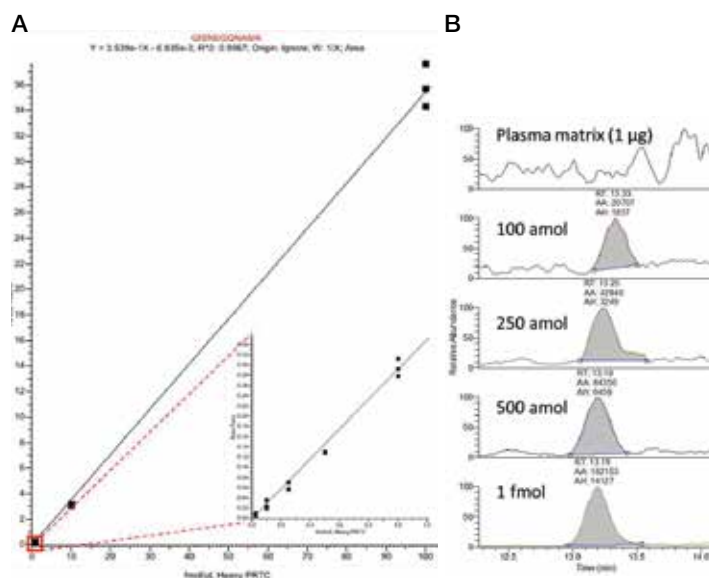

Figure 10. (A) Response curve for PRTC peptide GISNEGQNASIK in digested plasma (1 µg/µL), as plotted in TraceFinder software.
- **Sensitive, robust peptide quantitation**—in combination with the Thermo Scientific™ EASY-Spray NG™ source and Thermo Scientific™ TraceFinder™ software, the TSQ Quantiva MS enables detection and sensitive quantitation of low-abundance proteins and targeted SRM methods (Figures 10 and 11)